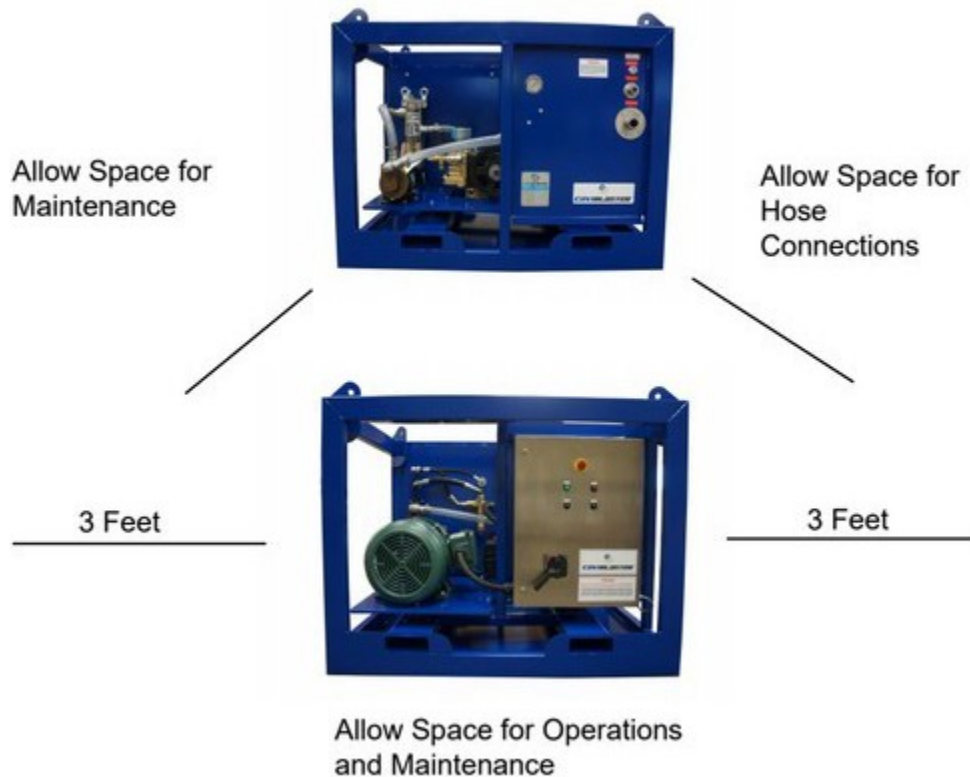

Figure 4.2 – Installation Guidelines
** Enclosed installations will require provisions for adequate motor cooling air flow. See **Figure 4.2** below.*